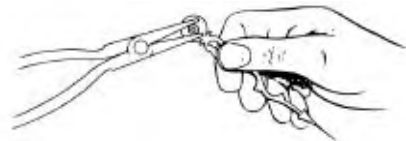

Figure 21
MINUTE HAND ADJUSTMENT (Figure 21)
5. Turn the minute hand over and look at the back. You will see a bushing or collar which can be grasped with the pliers. With the hand being held in this position you will turn the minute hand very slightly. Remember to make small adjustments. (1 minute is a very short distance on the dial). See Fig.21 for help in making this adjustment.